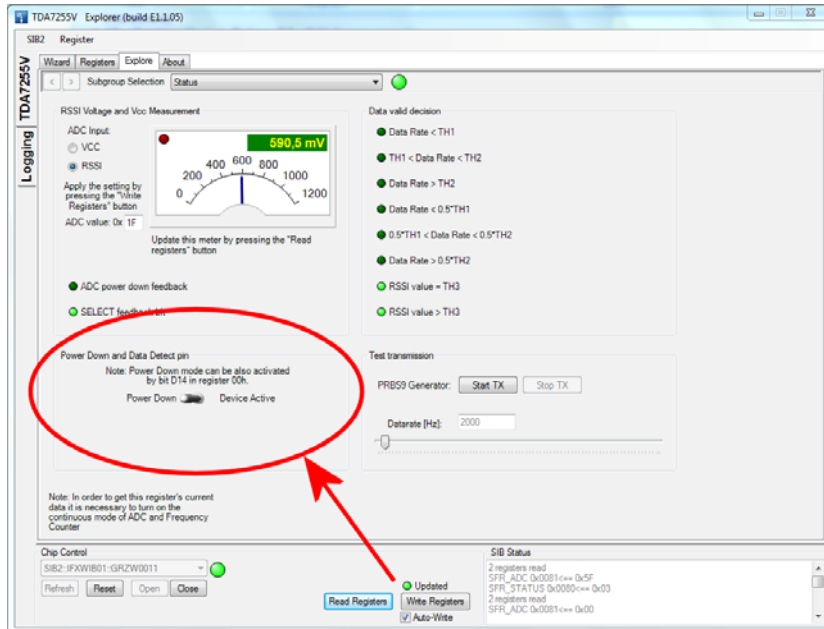

Figure 12 TDA7255V-Explorer, Explorer tab, Power Down and Data Detect pin
- The **TDA7255V** can be switched between **Power-Down-Mode** and **Device-Active-Mode** by the **TDA7255V-Explorer** when closing the jumper JP5 (see Figure 3). You can switch to **Power-Down-Mode** or **Device-Active-Mode** by just clicking on the accordant side of the symbolic dip-switch in the **Power Down and Data Detect pin**-field in the **Explore**-tab (see Figure 12).